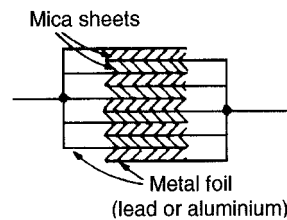

Figure 6.14
- Mica capacitors.** A typical older type construction is shown in Fig. 6.14.